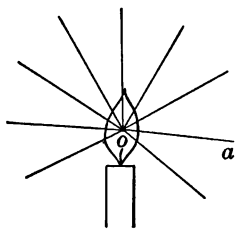

FIG. 138
**203. Rays.** — *Every point in a luminous body sends off light waves in all directions* (Fig. 138).